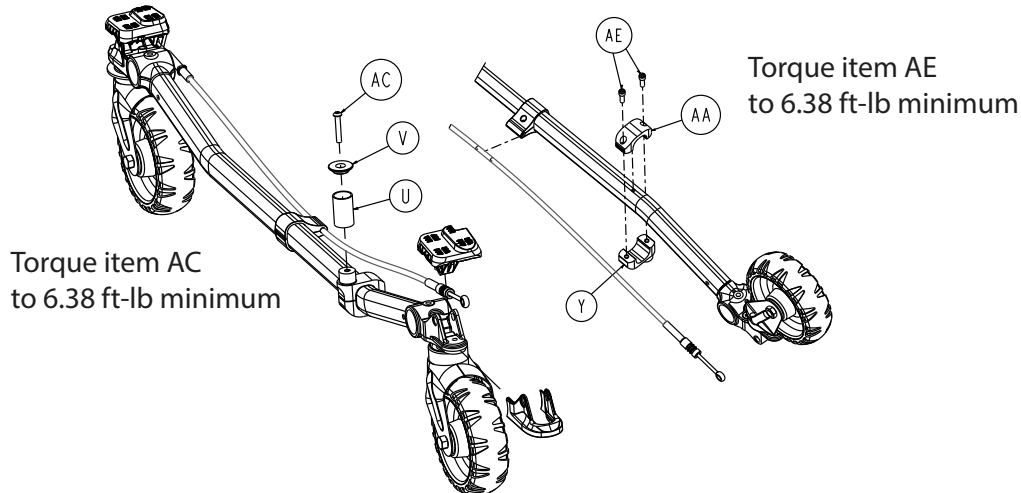

Figure 40 – Cot retaining post components
5. Using a T30 Torx driver, remove the two socket head cap screws (AE) that secure the cot retaining post to the base tube (Figure 40). Discard the screws and cot retaining post.
7. Using a torque wrench, tighten the socket head cap screws (AE) to 6.38 ft-lb (minimum).
8. Insert the button head cap screw (AC) through the retaining post cap (V) and retaining post body (U), and then into the top pin bracket (AA).
9. Using a T27 Torx driver, tighten the button head cap screw to secure the retaining post cap and retaining post body to the bottom bracket (Y).